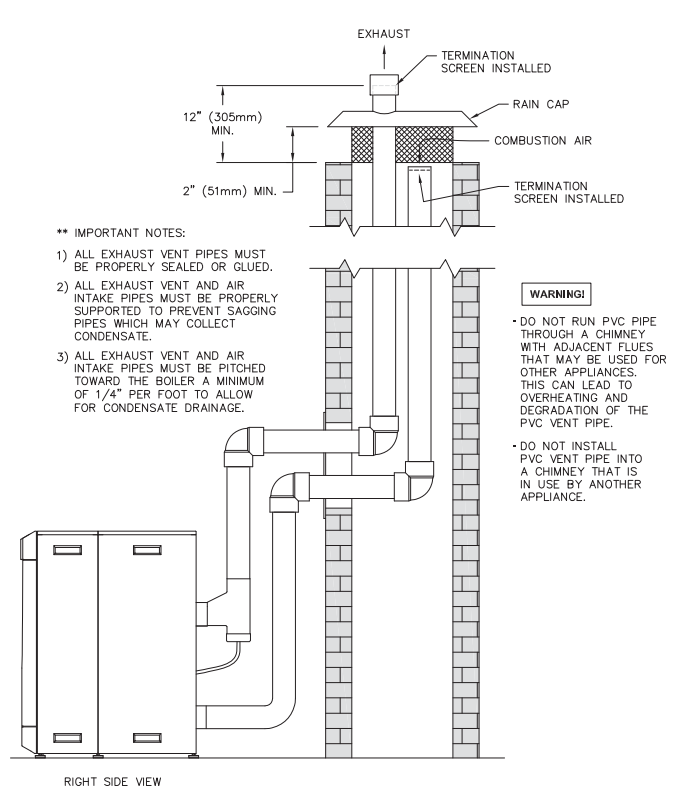

Figure 3.8: Vertical Exhaust Routed Through an Unused Chimney with Outdoor Air
c. Figure 3.8 illustrates another vertical venting configuration through an unused chimney. In this arrangement the combustion air is supplied through the chimney as well.